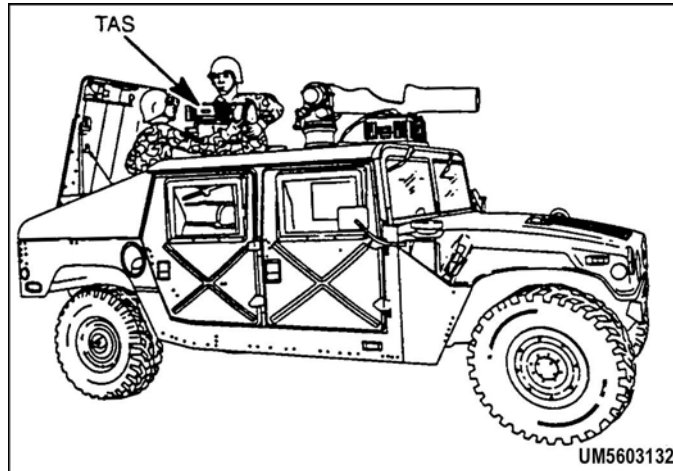

Figure 11. TAS install.
- d. Hand the TAS up to the weapons station (Figure 11).